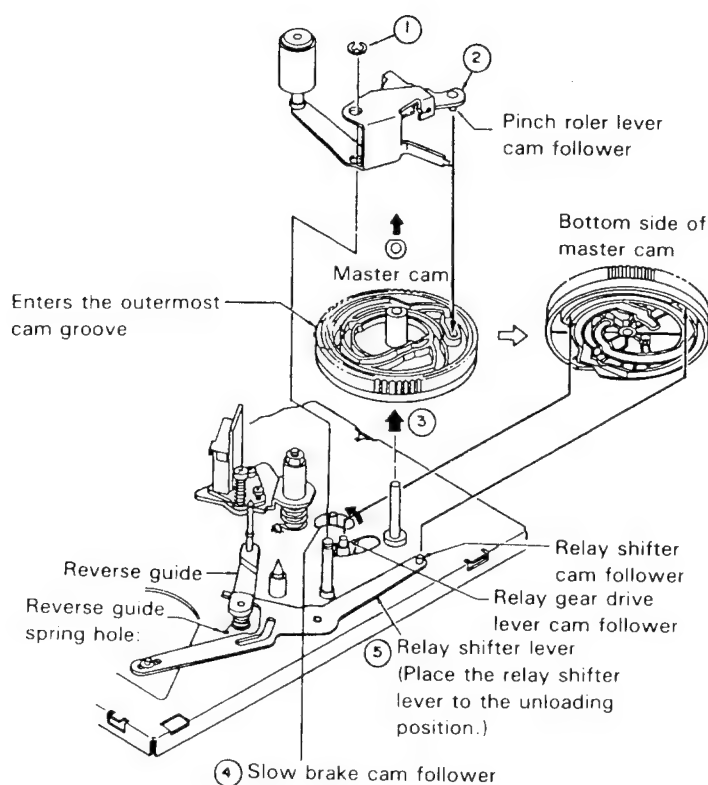

Figure 1-11
- (1) Remove the cassette housing assembly. (See step 3-1.)
- (2) Remove the loading motor block assembly by removing 3 screws.
- (3) Remove the E-ring ①. (See Figure 1-11)
- (4) Pull out the pinch roller lever ② from the shaft.
- (5) Pull out the master cam ③ upward.